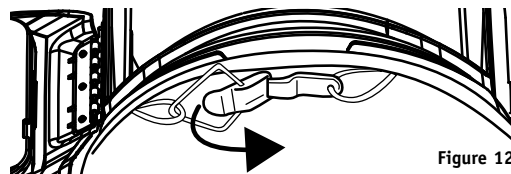

Figure 12
5. Snap the clamp to tighten cable and hold cape snugly on helmet, while ensuring the cape stays in the groove. Latch should be centered in the front, below the chinguard (Figure 12).